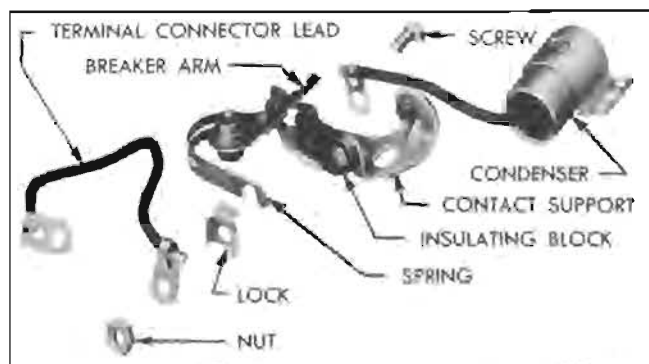

Figure 10-66—Position of Control Points and Other Parts for Assembly
4. Attach condenser connector lead, breaker arm spring, lock, and terminal connector lead to insulating block on contact support by means of the screw and nut. The head of screw and condenser lead terminal must be on inner side of block toward contact points, and the breaker arm spring, lock, connector lead terminal and nut must be on the other side of block in the order shown in figure 10-66. Leave screw just loose enough so that the screw can be shifted in the slotted insulating block.